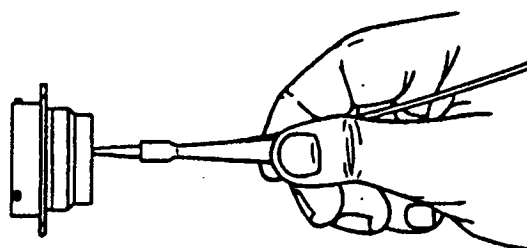

Figure 3
H. Maintaining pressure as in step G, withdraw tool, contact and wire simultaneously and as a unit with the tool positioned in the hand as shown in Figure 3.